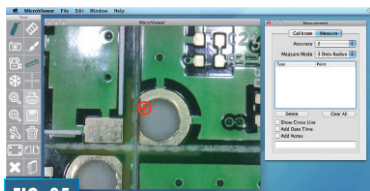

FIG. 85
3. Click and hold the mouse button at corner of the object (Fig. 85).